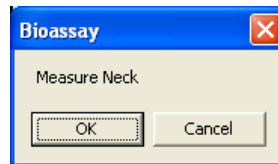

Figure 11-22
- b. The screen shown in Figure 11-22 appears next, prompting you to measure the Staff Member.